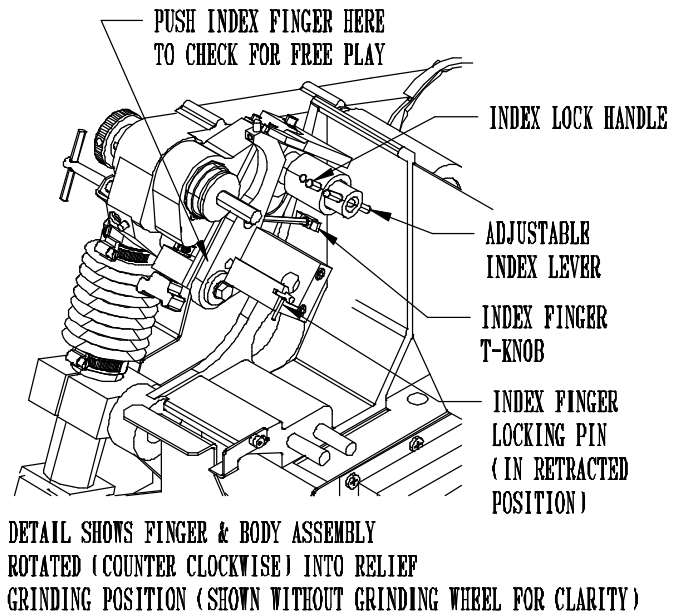

FIG. 6
The Finger and Body Assembly of the grinding head rotates on the Grinding Head Housing to change positions between spin grinding and relief grinding. To change the position of the finger and Body Assembly you have to pull out the Plunger Pin on the left side of the Grinding Head Housing. See FIG. 5. When you are going to perform spin grinding operations the Finger and Body Assembly must be rotated clockwise (looking at it from the right). This rotates the fingers out of the reel blade path. See FIG. 5 When you are going to perform relief grinding operations the Finger and Body Assembly must be rotated counter clockwise. This rotates the finger into position to touch and control the reel blades. See FIG. 6
STEP 1: Once you have the Grinding Head positioned with a reel blade resting on the Fixed Relief Finger high point, you want about 1/32" [.8mm] to 1/16" [1.5mm] free play of the Index Finger behind the reel blade. The Index Finger is spring loaded to the up position. To check free play, push down on the Index Finger. See FIG. 6. To make this adjustment you have to first turn the Index Lock Handle counter clockwise to unlock the adjustable Index Lever. See FIG. 6 If there is no free play of the Index Finger you want to rotate the Adjustable Index Lever clockwise. If there is more than 1/16" [1.5 mm] free play you want to rotate the Adjustable Index Lever counterclockwise. When the Index Finger is in proper position rotate the Index Lock Handle clockwise to lock the Adjustable Index Lever. The Index Stop Pin is height adjustable. It should be adjusted to catch the reel blade and still leave enough clearance to the reel spider after the relief is ground to the reel spider after the relief is ground to the depth required.
If the Index Finger has problems catching the next blade turn the Index Finger T-knob counterclockwise. If there isn't enough clearance between the back side of the Index Finger and the front side of the reel blade turn the Index Finger T-Knob clockwise. See FIG. 6.